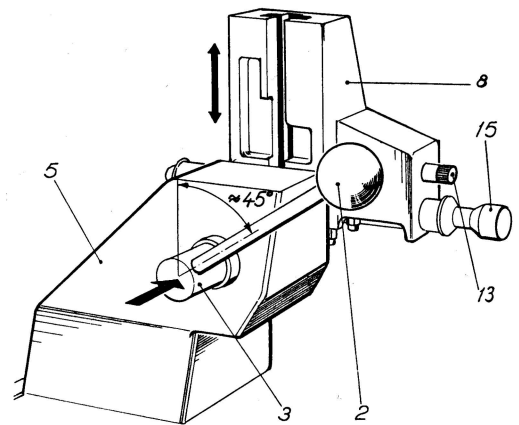

Fig. 4
1. Remove clamping head (8) as follows:
- a) Set lever (2) at about  $45^\circ$  angle as shown in fig. 4.
- b) Set symbol  $\equiv$  on score selector (13) upwards,
2. Insert Allen wrench (39) into screw (33) and adjust spring pressure as follows:
3. Replace clamping head (8) as follows (See fig. 4):
- a) Check that locking lever (2) is at about  $45^\circ$ .
- b) Press shaft (3) to the right with left hand and push simultaneously down clamping head (8) into bracket (5) with the right hand.